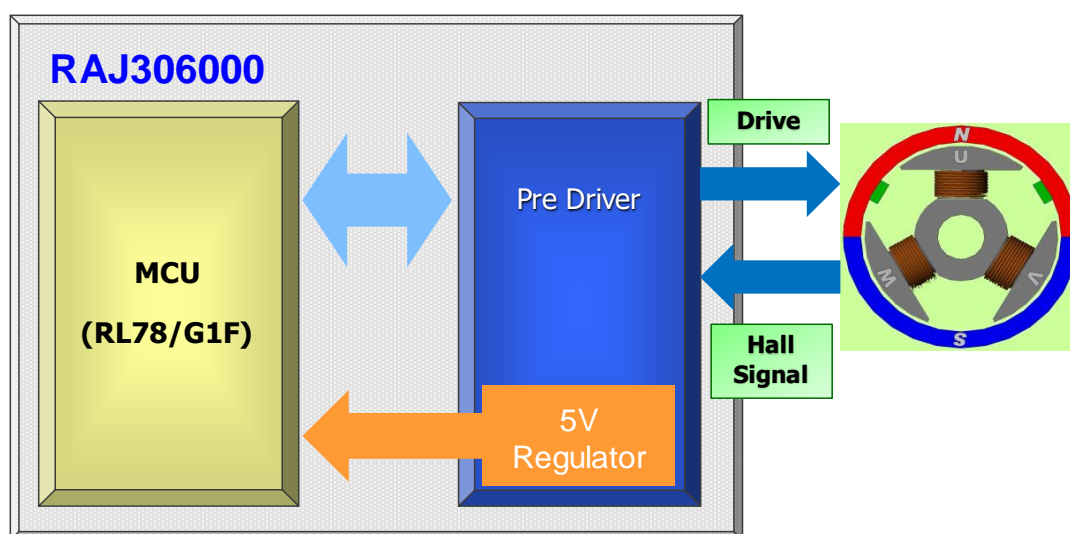

Figure 1-1 RAJ306000
- The configuration of RAJ306000 which is a SIP product containing MCU (RL78/G1F) and PreDriver is shown in Figure 1-1.